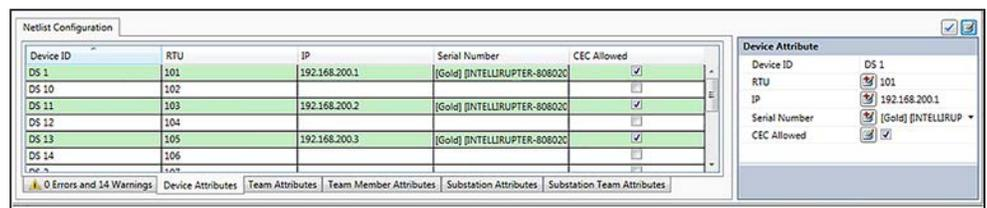

Figure 73. Netlist Configuration shows the completed changes.
**STEP 12.** Click on the **Apply** button to immediately apply the **Multi Update** values and keep the Multi Update dialog box open, or click on the **OK** button to apply and close the Multi Update dialog box. The changes will now be entered in Netlist Configuration. See Figure 73.